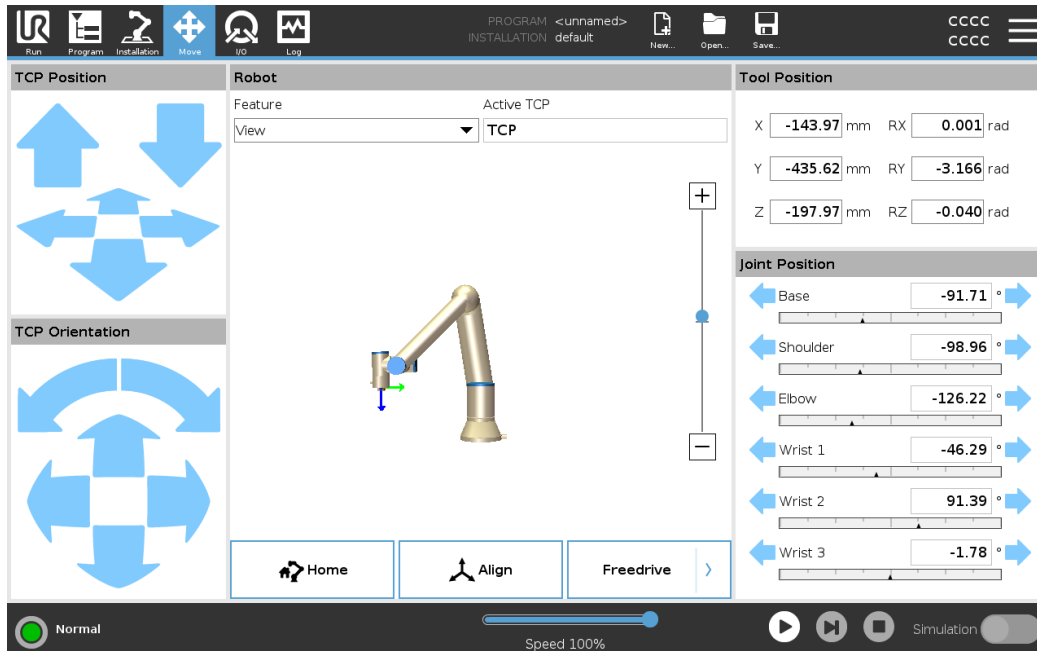

Figure 5.8 – Start Position
- Start with the robot **Feature** in **View** and the robot in a neutral pose as shown in Figure 5.8. Note the angles of the **Joint Position**. This position will be the **Start Position**.
3. Move the robot to the **Start Position** (Figure 5.8).